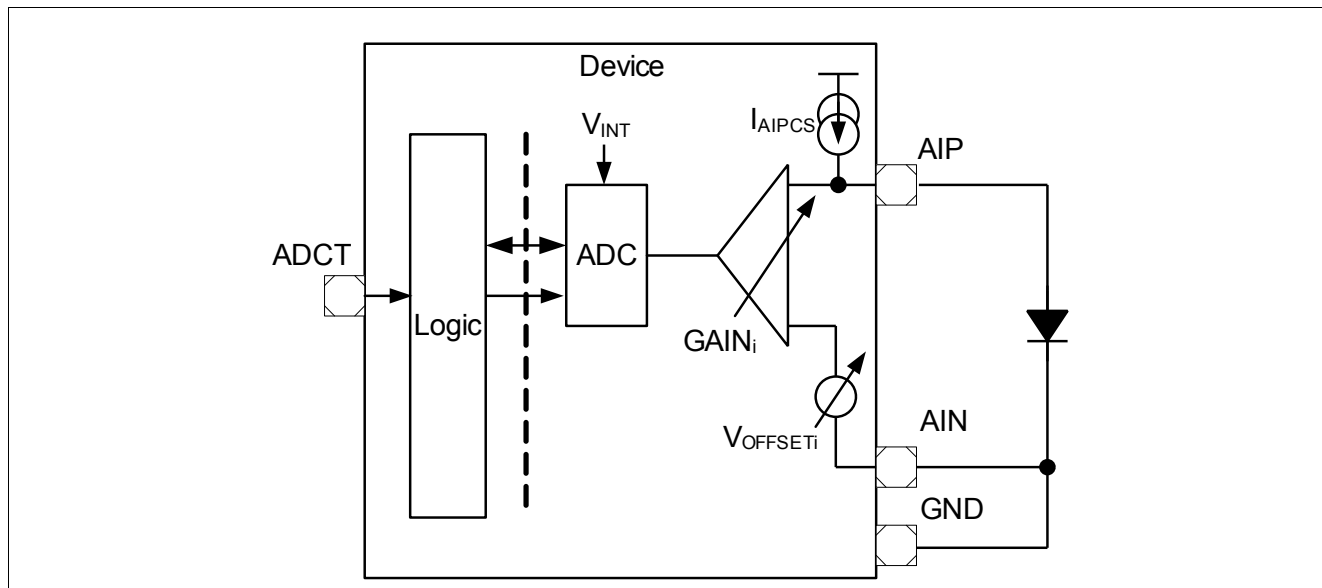

Figure 2-19 Application Example: Diode Measurement
- Measurement of a temperature diode integrated into the IGBT (Figure 2-19).